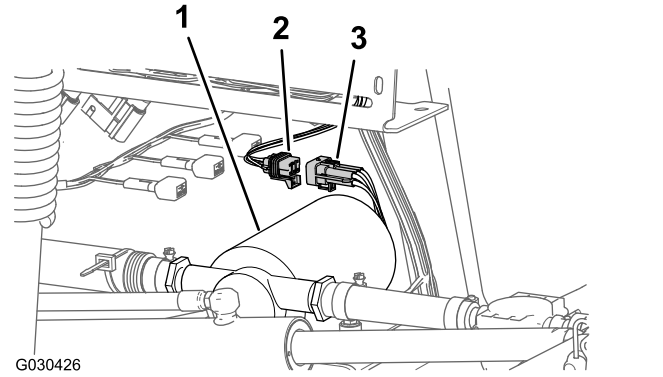

Figure 14
2. Disconnect the 6-pin connector of the rinse-pump harness from the 6-socket connector of the rear, main harness (Figure 14).